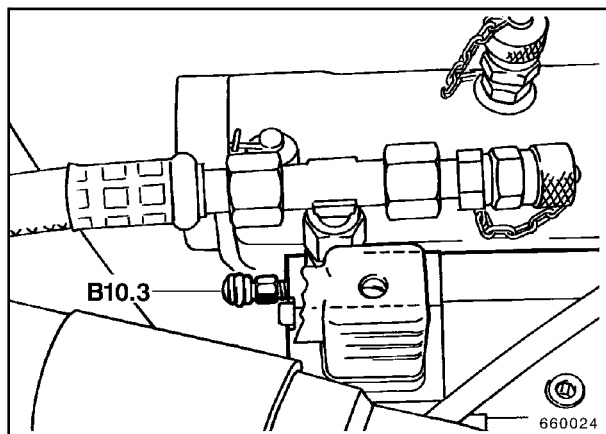

Fig. 14
- Vent (B10, Part 3, Fig. 14) at inching valve.